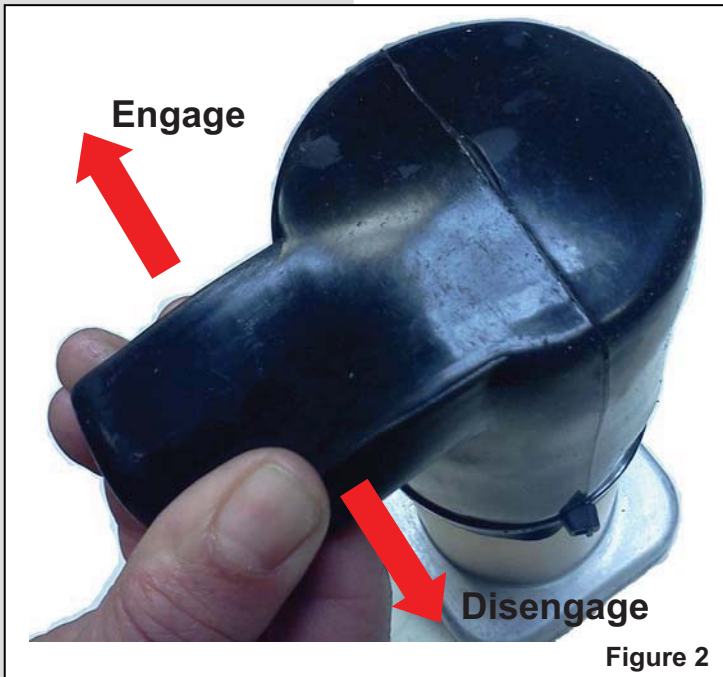

Figure 2
2. Engage the brake lever by rotating clockwise (see **FIGURE 2**).